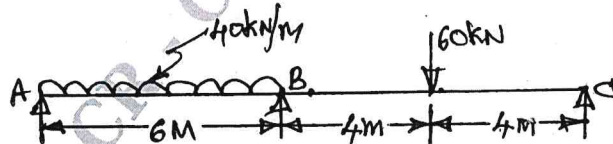

Fig.Q4(b)
- Determine the value of fully plastic moment for the two span continuous beam shown in Fig.Q4(b). Adopt a load factor 1.5. Draw BMD.